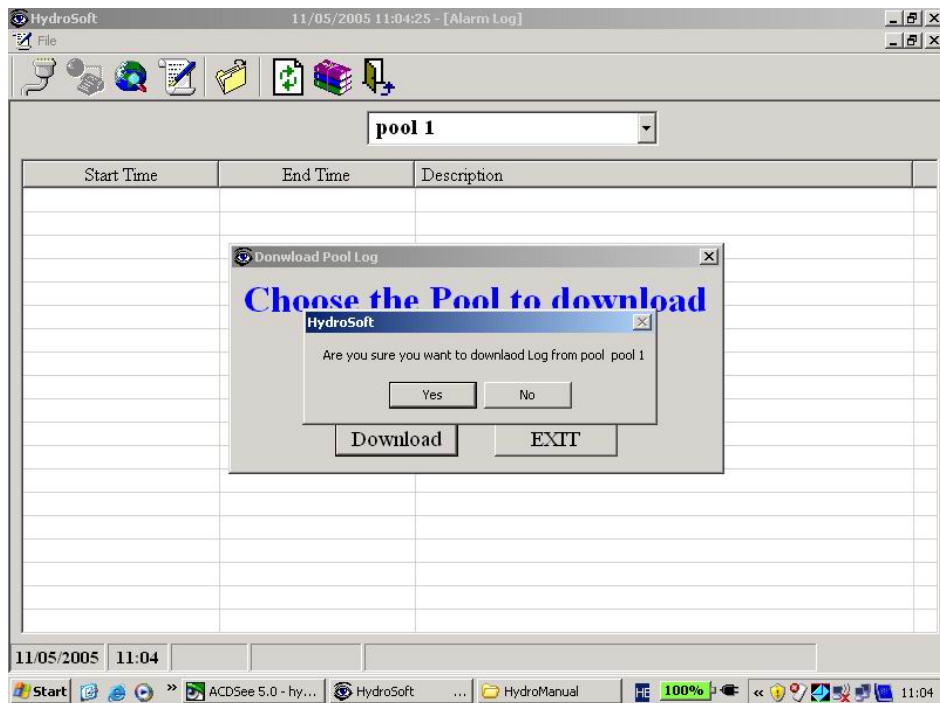

Figure 9: Confirming the History Download from the Selected Pool
3. Select the appropriate pool and click "**download**" and "**yes**" (Figure 9)